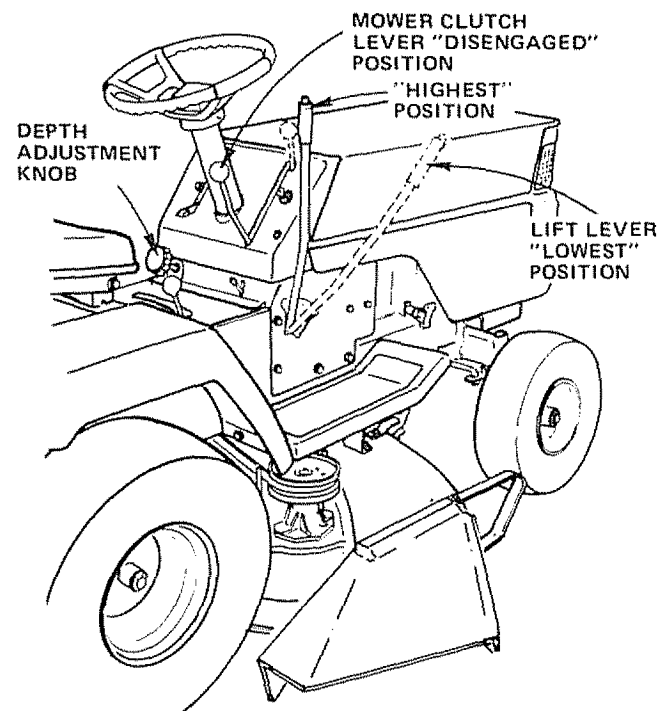

FIGURE 37
If the Mower Clutch Lever (Fig. 37) travels 3 - 1/2" up the slot in the dash before spring tension resistance is evident, adjustment is necessary. NOTE: CHECK FOR PROPER SPRING TENSION WITH ENGINE OFF AND LIFT LEVER IN HIGHEST POSITION
1. Place Mower Blade Clutch Lever in "DISENGAGED" position (Fig. 37).
2. Turn Depth Adjustment Knob to lowest position. Move Mower Lift Lever (Fig. 37) forward to lower Mower to its lowest position.